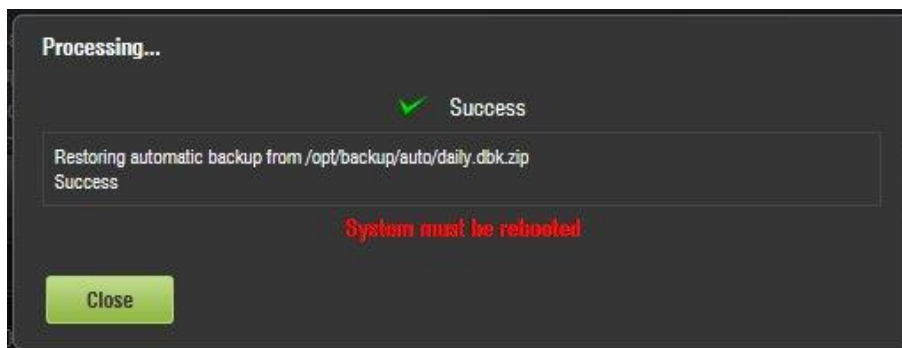

Figure 206: Processing Window
- The Processing window will appear (Figure 206).
- You will be required to reboot the system to complete the restore process. To reboot the system, go to the System tab (Figure 206).